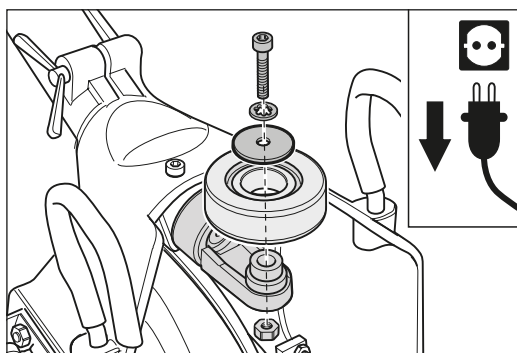

Fig. 80 Remove the screw with the washers and nut in the center of the wheel and take off the back wheel. Assemble in reverse order.
- 4 Release the screw in the center of the wheel and remove the screw, washers and nut (fig. 80). Ensure that you do not lose the nut.